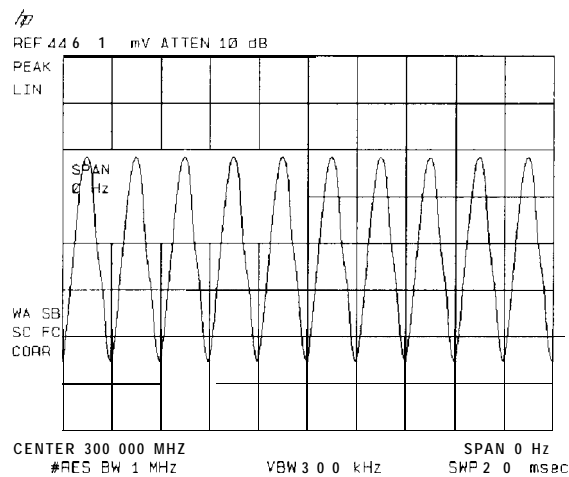

Figure 3-27. Measuring Modulation in Zero Span
5. To select zero span, either press (SPAN), 0 **[Hz]** or press ZERO SPAN . See Figure 3-27. If the modulation is a steady tone (for example, from a signal generator), use video trigger to trigger on the waveform and stabilize the display. Adjust the sweep time to change the horizontal scale.